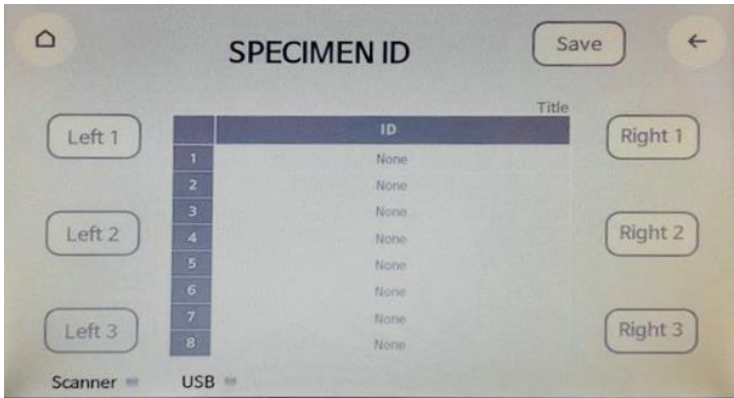

Figure 18. Barcode ID Menu of the IndiMag48s touchscreen interface for data input.
- 2. Tap 'BARCODE' to access Barcode menu (See Figure 14 for Run Menu). The Barcode Menu will display (See Figure 18).
7. When complete tap 'SAVE' located at top of the screen (see figure 18). File will be exported to USB.